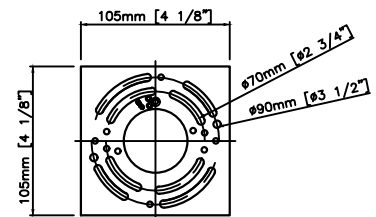

Fig.2 Wiring
CONNECTING THE WIRES (FIG.2)
4. Connect the electrical wires as shown in Fig. 2, making sure that all wire connectors (A1) are secured. If your outlet box has a ground wire, connect it to the fixture's ground wire. Otherwise, connect the fixture's ground wire directly to the mounting plate (D1) using the green screw (E1) provided. Tuck wires carefully inside the junction box.